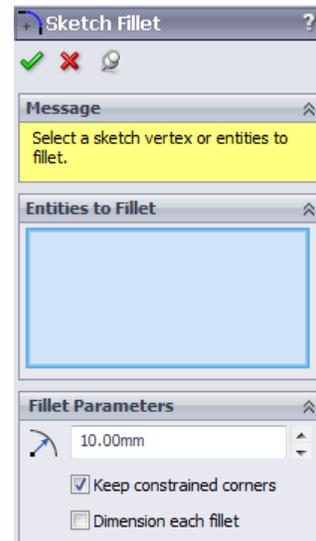

Figure 3-18 The Sketch Fillet PropertyManager
- Choose the **Sketch Fillet** tool from the **Sketch CommandManager**; the **Sketch Fillet PropertyManager** is displayed, as shown in Figure 3-18. Also, you are prompted to select the sketched entities or sketched vertex to be filleted.